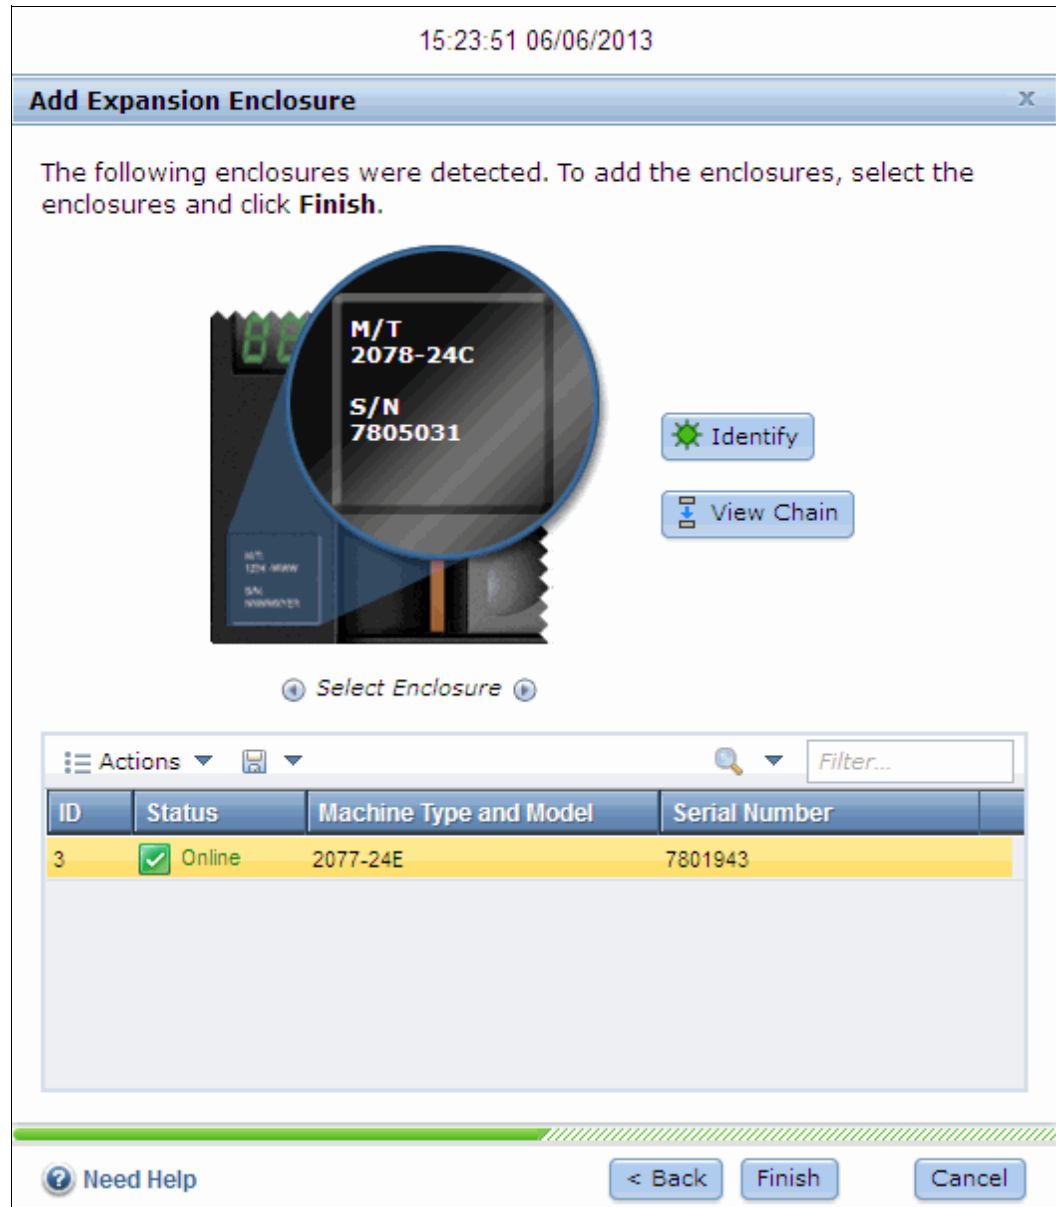

Figure 2-46 Selecting new hardware to be added
5. To add the enclosure, highlight it and click **Finish**, as shown in Figure 2-46.